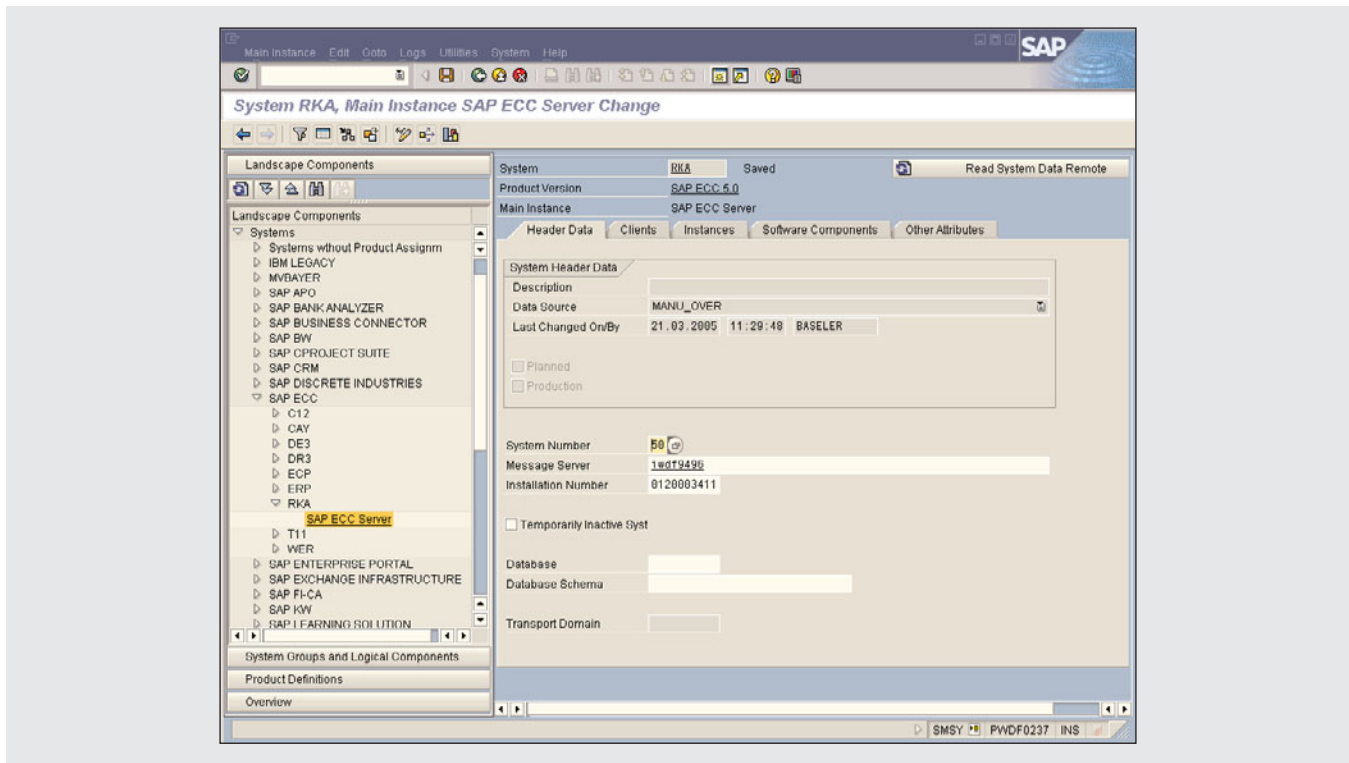

Figure 11 Specify system header data for the main instance
2. On the Header Data tab, you have the option to specify further information on the system, such as a system description. You *must*, however, specify the following data on this tab to identify the system in your system landscape (see **Figure 11**):